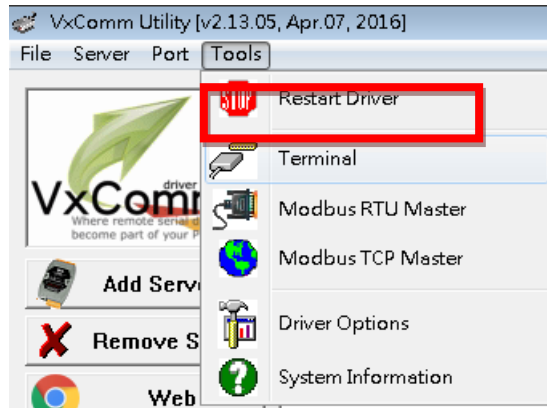
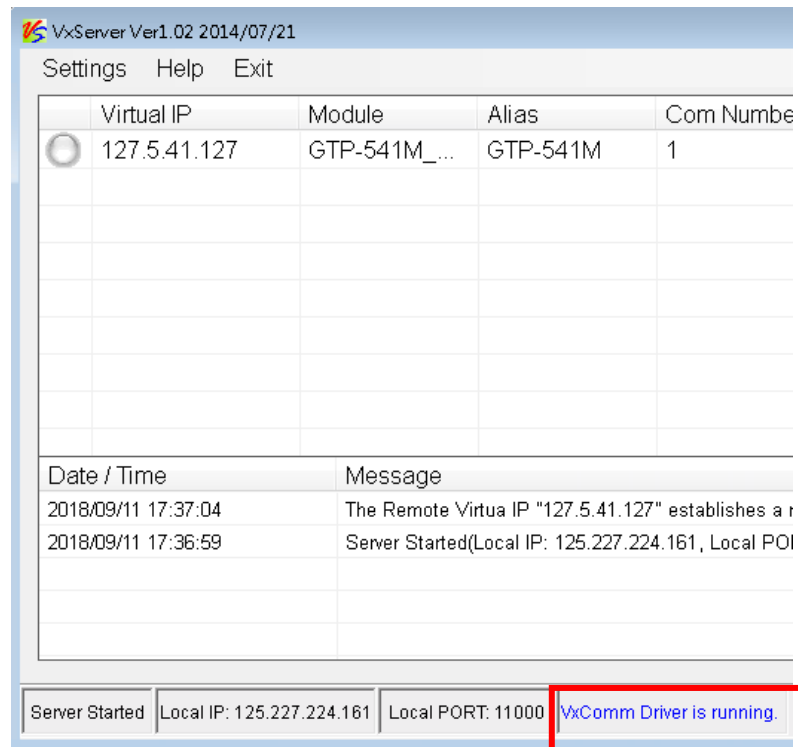

Figure 7.10.18
Figure 7.10.19
- J. After the setting is completed, click the “Restart Driver” update status in the upper left toolbar “Tools” as shown in Figure 7.10.18. At this time, “VxComm Driver is running” will be displayed at the bottom of the VxServer screen as shown in Figure 7.10.19. ◦